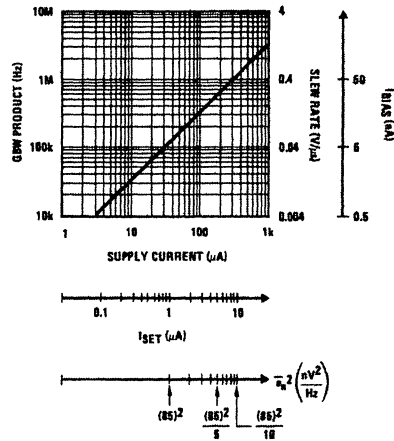

FIGURE 3. LM146 Typical Characteristics
**Isolation Between Amplifiers:** The LM146 die is isothermally laid out such that crosstalk between all 4 amplifiers is in excess of -105 dB (DC). Optimum isolation (better than -110 dB) occurs between amplifiers A and D, B and C; that is, if amplifier A dissipates power on its output stage, amplifier D is the one which will be affected the least, and vice versa. Same argument holds for amplifiers B and C.
**LM146 Typical Performance Summary:** The LM146 typical behavior is shown in Figure 3. The device is fully predictable. As the set current, ISET, increases, the speed, the bias current, and the supply current increase while the noise power decreases proportionally and the VOS remains constant. The usable GBW range of the op amp is 10 kHz to 3.5–4 MHz.